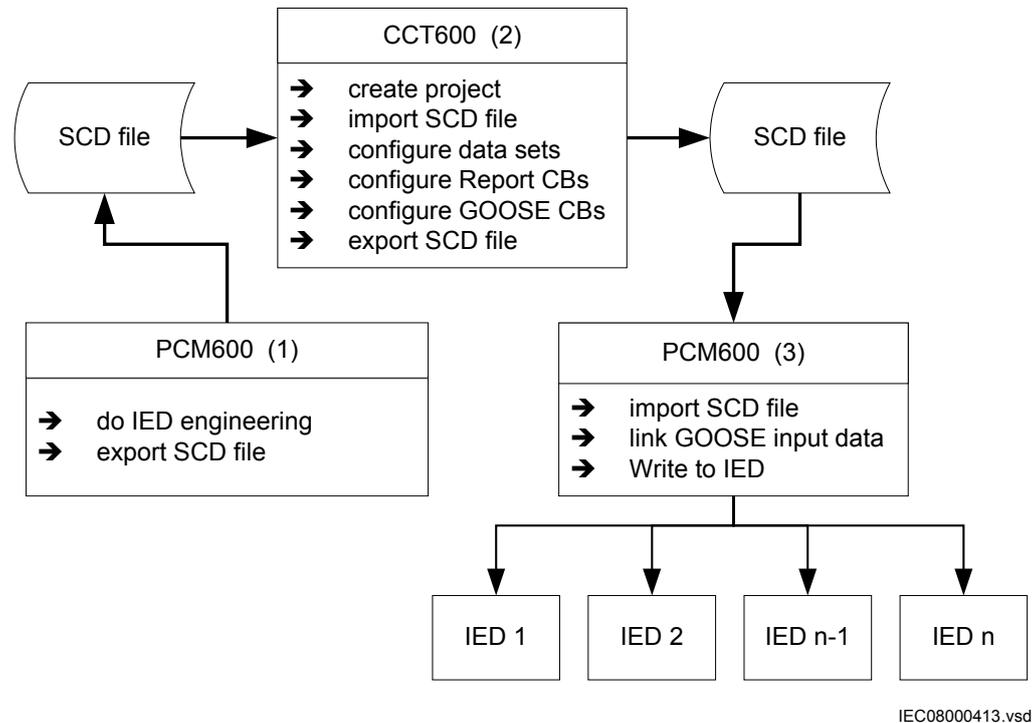

Figure 63: IEC 61850: Signal engineering procedure flow
A short form of a typical sequence is shown in Figure 63 when a complete station is exported as a SCD file.
1. Export SCL files from PCM600. In the scenario in Figure 63 it is a SCD file. Other SCL file types are possible to export.
3. Import SCL files to PCM600 project. In the scenario in Figure 63 it is the updated SCD file.